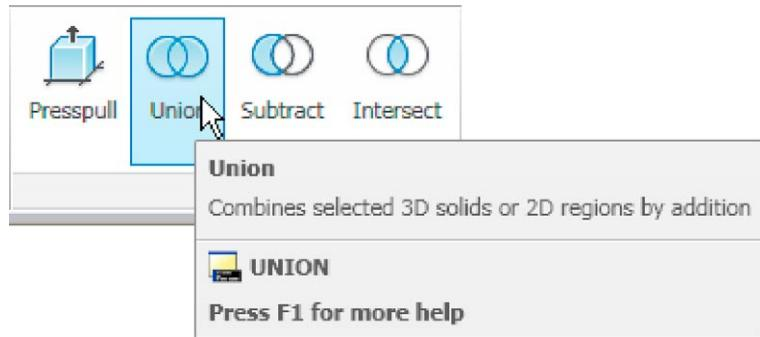

Fig. 12.11 Selecting the **Union** tool from the **Home/Edit** panel
3. Drawing 2 – call the **Union** tool from the **Home/Edit** panel (Fig. 12.11). The command line shows: